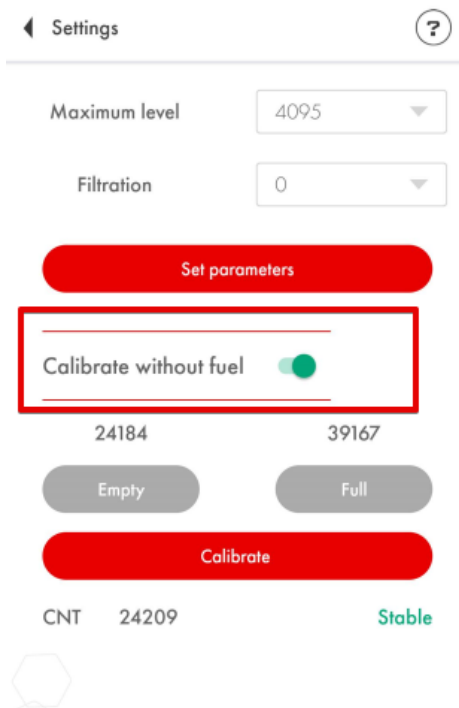
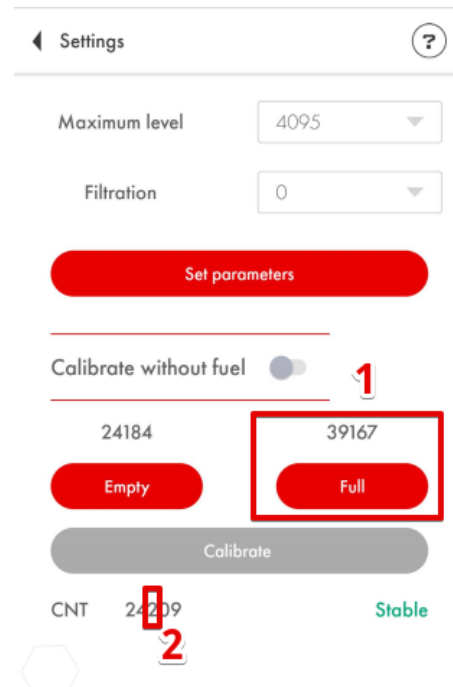

Fig. 19 Deactivate the Calibrate without fuel option
Fig. 20 Press **Full** when the level is stable
- Switch off the **Calibration without fuel** tumbler (**Fig. 19**) and press the **Full** button (**Fig. 20, 1**) when the level is **Stable** or the digit before the last two of the CNT value stops changing (**Fig. 20, 2**)